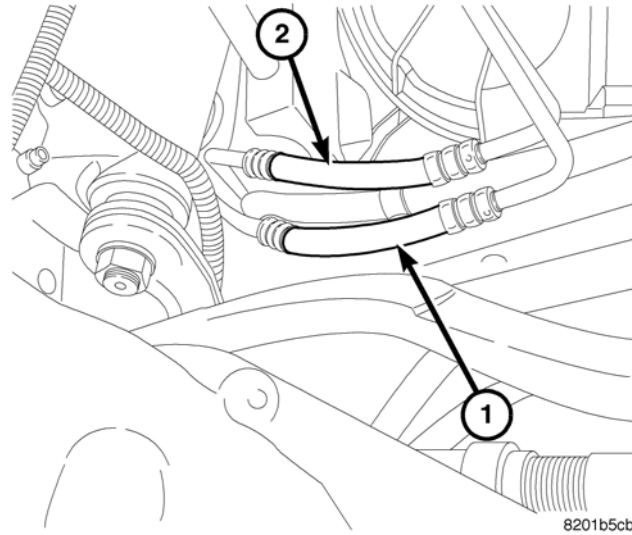

Fig. 15 TRANSMISSION COOLER LINES
35. Locate the transmission cooler return line (bottom line), (Fig. 15).